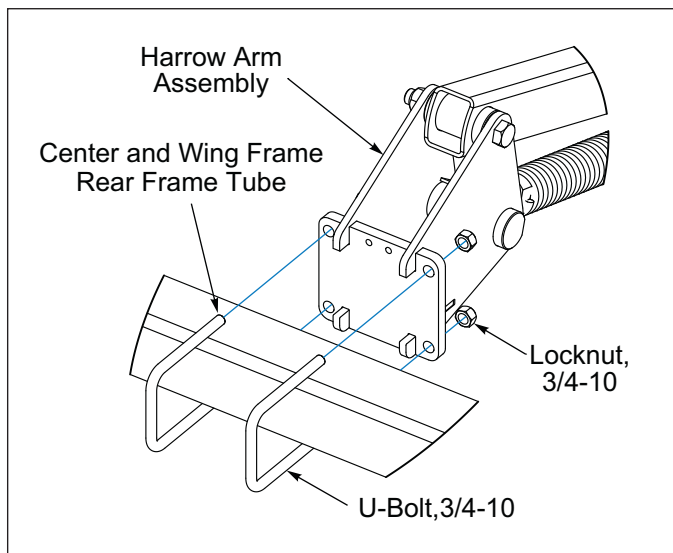

Figure 2-74: Harrow Arm Installation to Frame
2. Position Harrow Arm Assembly on the Center Frame Rear Roller Tube or Wing Frame Rear Tube. Secure with 3/4-10 U-Bolts and Locknuts. **See Figure 2-74.**